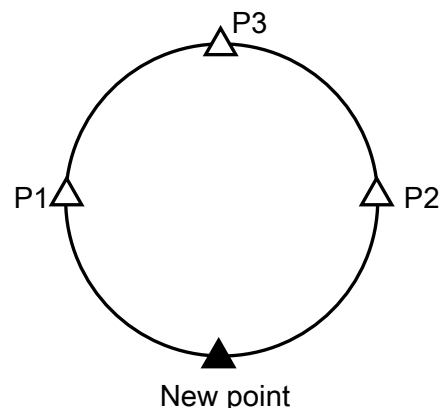

FIG 2
- 4) A new point (station point) and three or more known points are arranged on the same circumference. See above Fig. 2.